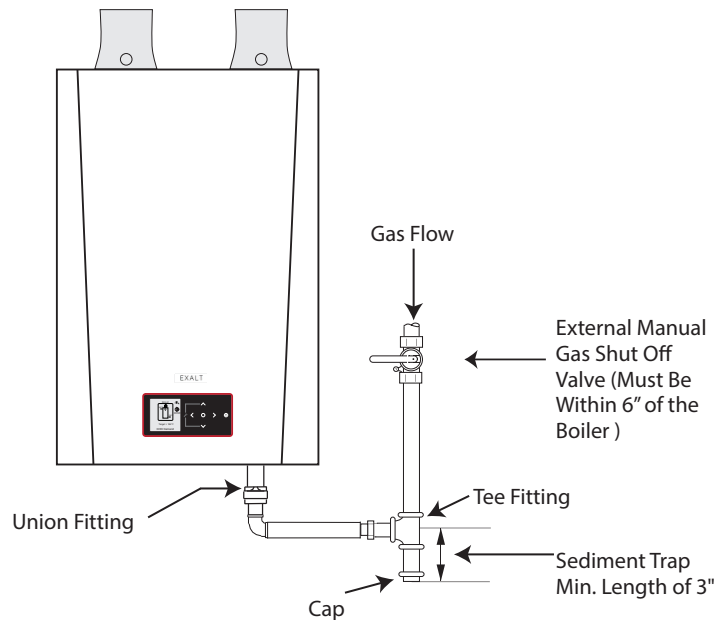

Fig. 15 - Recommended Gas Supply Piping
2. Install a manual shutoff valve in the gas supply piping as shown in **Fig. 15 above**. For installations in Canada, the installer must tag and identify the main shutoff valve.
3. Install a sediment trap (drip leg) on the gas supply line prior to connecting to the EXALT gas train as shown in **Fig. 15 above**.